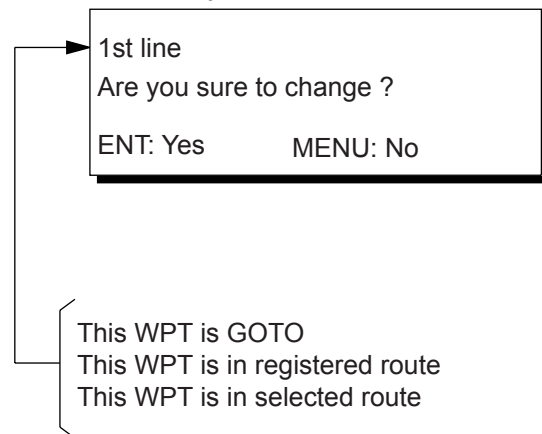

Figure 4-12
- 5) Press the **NU/CU ENT** key. The message shown in Figure 4-12 appears if the waypoint is currently selected as destination, is part of a route, or is in the route currently selected as destination.